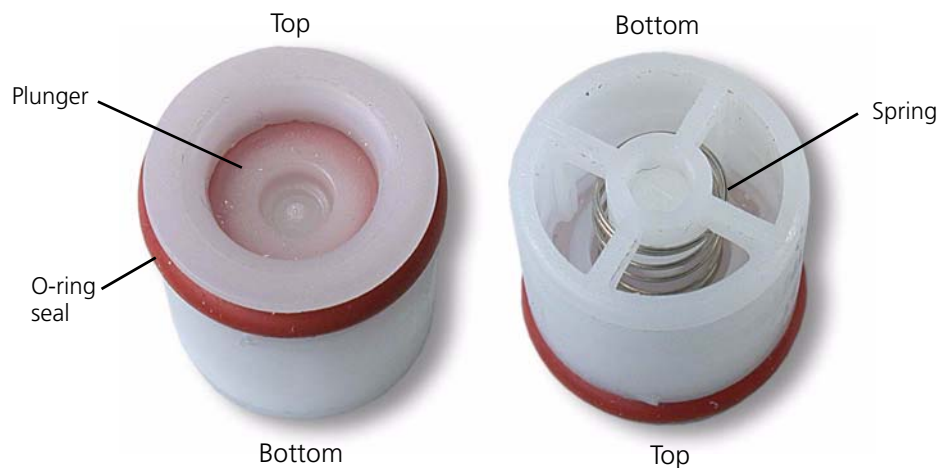

Figure 11-153. Check valve PN 279667 on old model mixer PN 155333
- PN 279667 on old type mixer block PN 155333 (Figure 11-153 on page 11-140)
The check valves for the old model mixer block comprise a plastic sleeve, containing a spring and plunger. (Figure 11-153.)